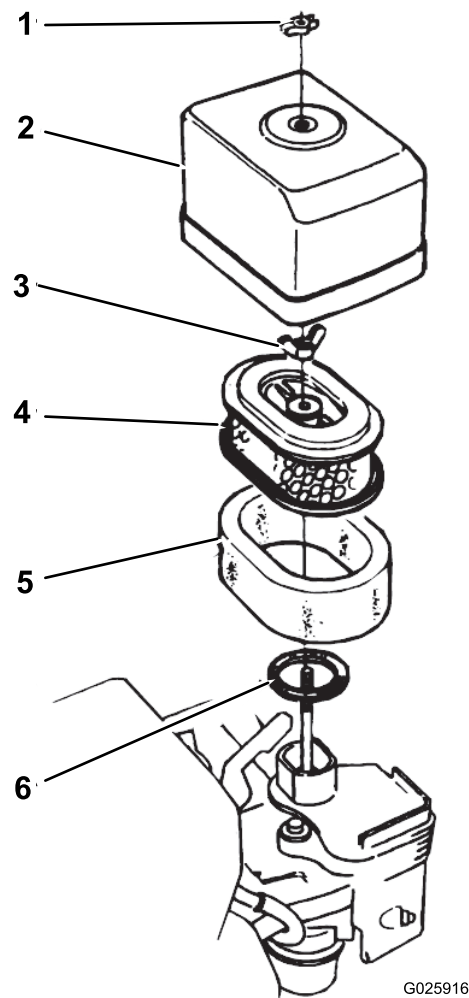

Figure 30
2. Remove the wing nut securing the air-cleaner cover to the air cleaner, and remove the cover (Figure 30).
5. Assemble the air-cleaner cover to the air cleaner with the wing nut (Figure 30).
1. Remove the wing nut securing the air-cleaner cover to the air cleaner, and remove the cover (Figure 30).
2. Remove the wing nut from the air filter, and remove the filter (Figure 30).
3. Remove the foam air-filter element from the paper element (Figure 30).
1. Assemble the foam air-filter element onto the paper element (Figure 30).
2. Inspect the gasket for wear and damage (Figure 30).
3. Ensure that the gasket is positioned on the air inlet for the carburetor (Figure 30).
4. Assemble the air-filter elements to carburetor with the wing nut (Figure 30).
5. Assemble the air-cleaner cover to carburetor with the other wing nut (Figure 30).